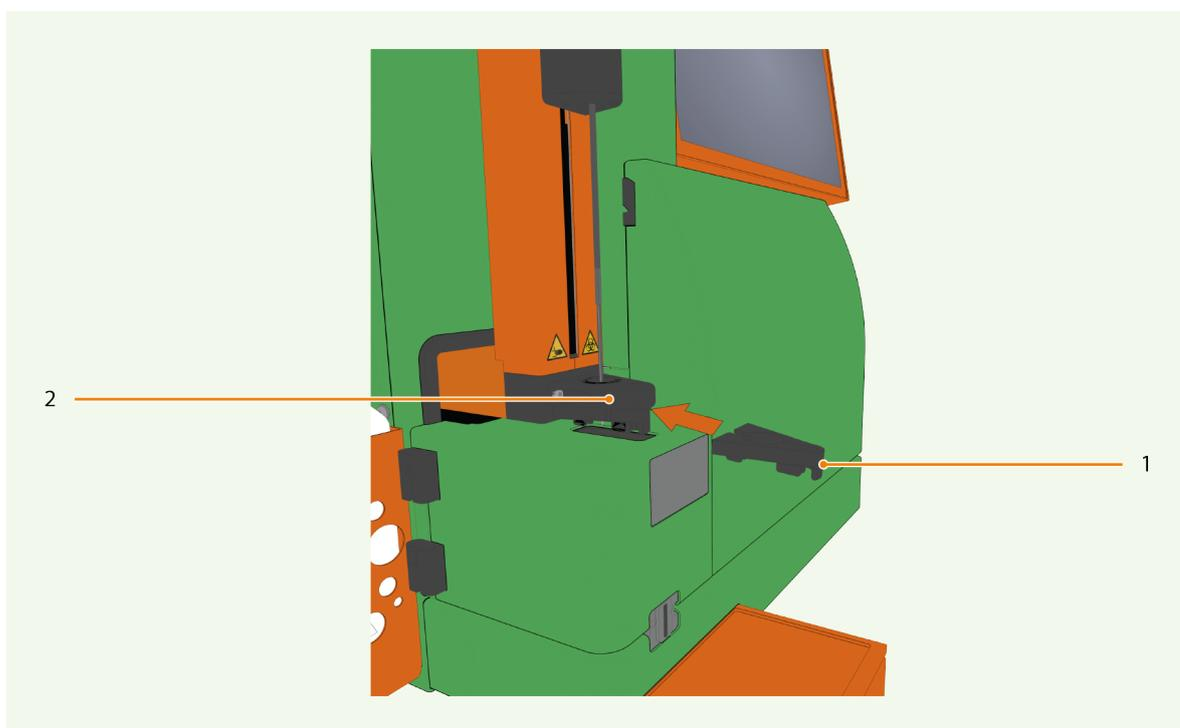

Figure 2.5: Attachment of the needle guard
- 4 Unscrew the bottom column connector (5) to remove the column.
- 6 Point the column towards the top of the MACS Cell Enrichment Unit (2) and screw in the top column connector.
- 1 Check if the needle guard (1) is attached to the robotic needle arm (2).
- 2 If not, install as depicted in **Figure 2.5**.